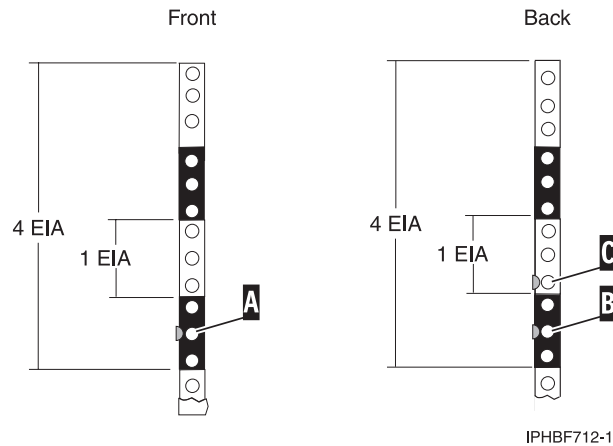

Figure 49. Marking holes on the front and back of the rack frame
3. Mark the middle hole of the bottom EIA unit on the left side of the rack (**A**) as shown in Figure 49.
5. Mark the middle hole of the bottom EIA unit (**B**) as shown in Figure 49.
6. Mark the bottom hole of the next (higher) EIA unit (**C**) as shown in Figure 49.